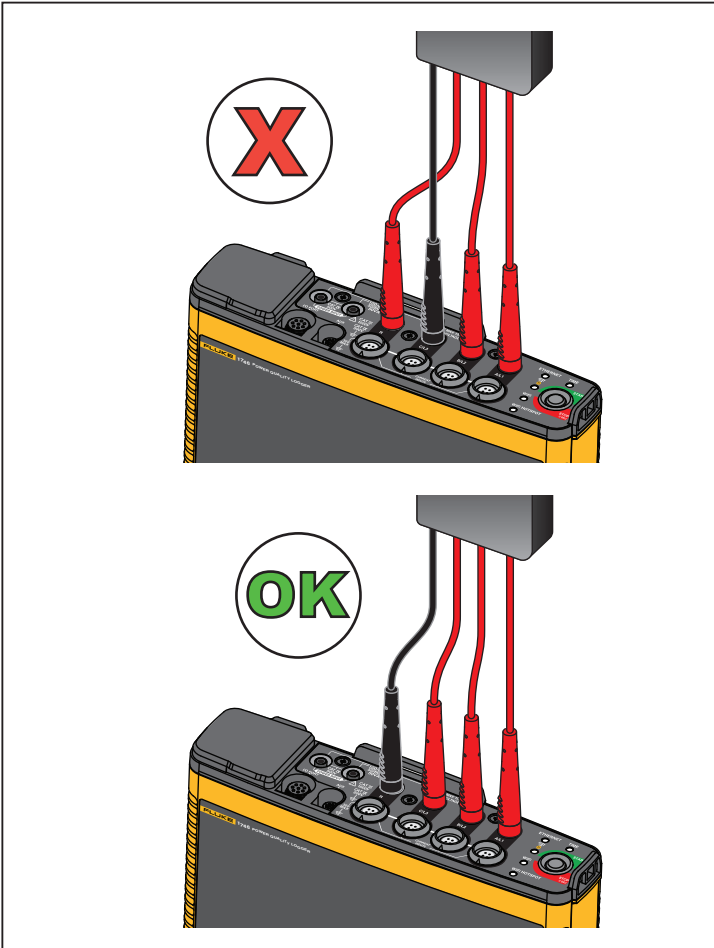

Figure 7A: Measurement connection to the Logger
- For measurement connection to the Logger (see Figure 7A):